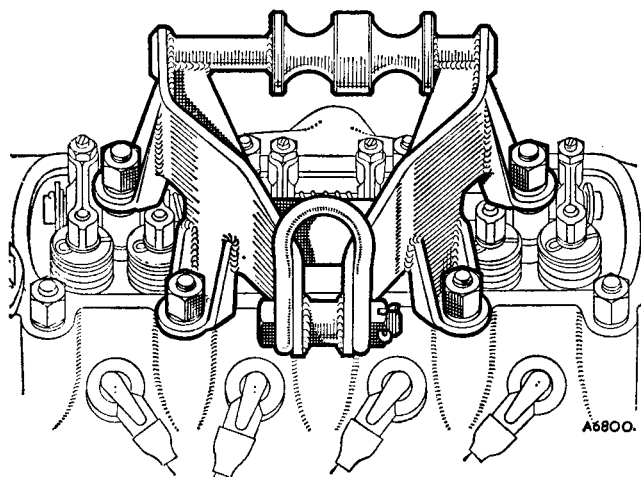

Fig. Aa.5
18. Remove the rocker cover nuts and fit the engine lifting bracket (Fig. Aa.5).